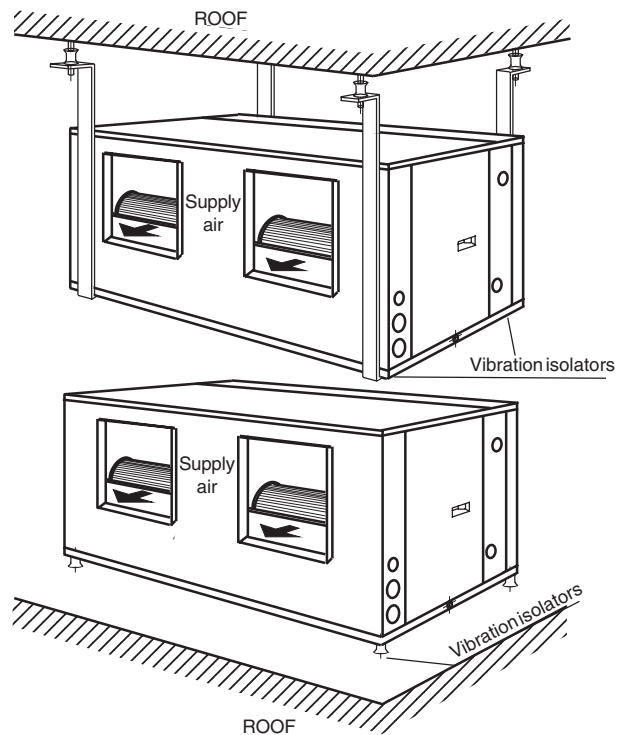

Fig. 30
- In accordance with applicable standards and laws the unit can be suspended from the ceiling or floor-mounted (see Fig. 30).